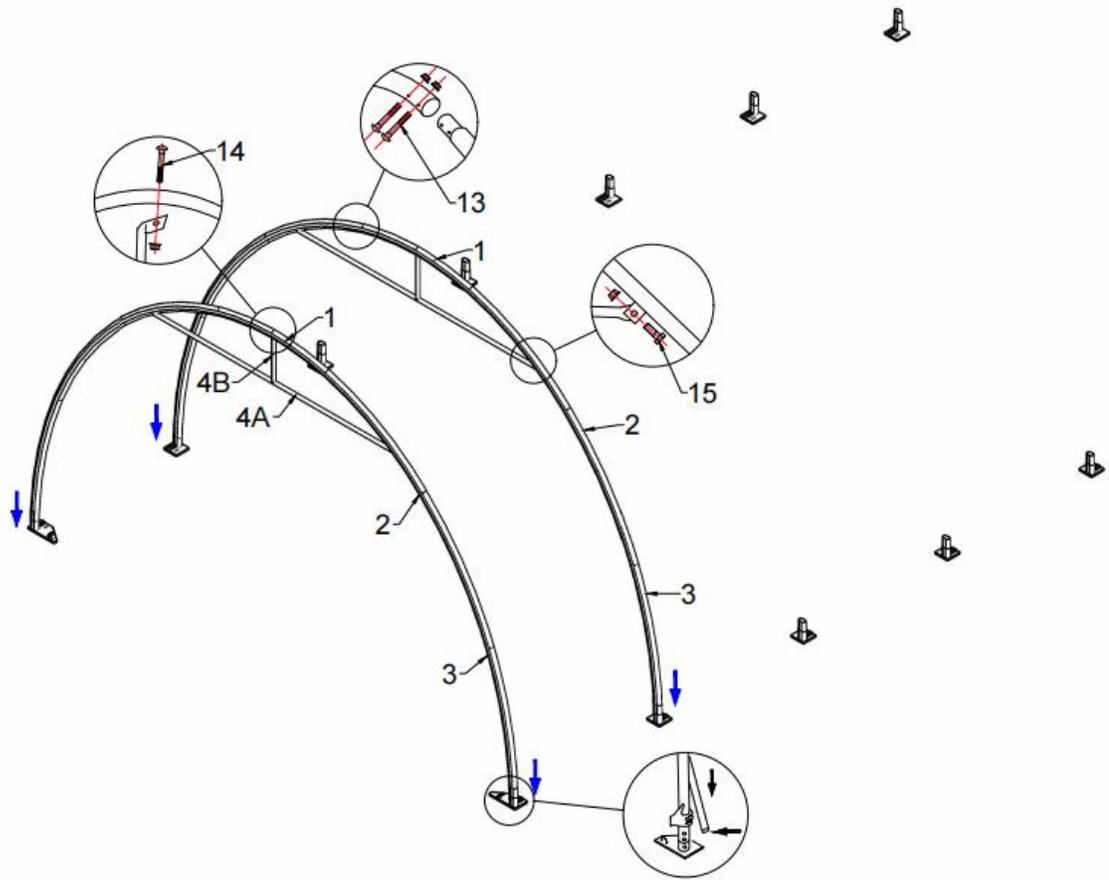

Figure 3
3.2 As **Figure 3** shown to fix Purlin-option (No.4A&4B) by using Carriage Bolt M10x100mm (No.14) and Bolt M10*30mm (No.15).